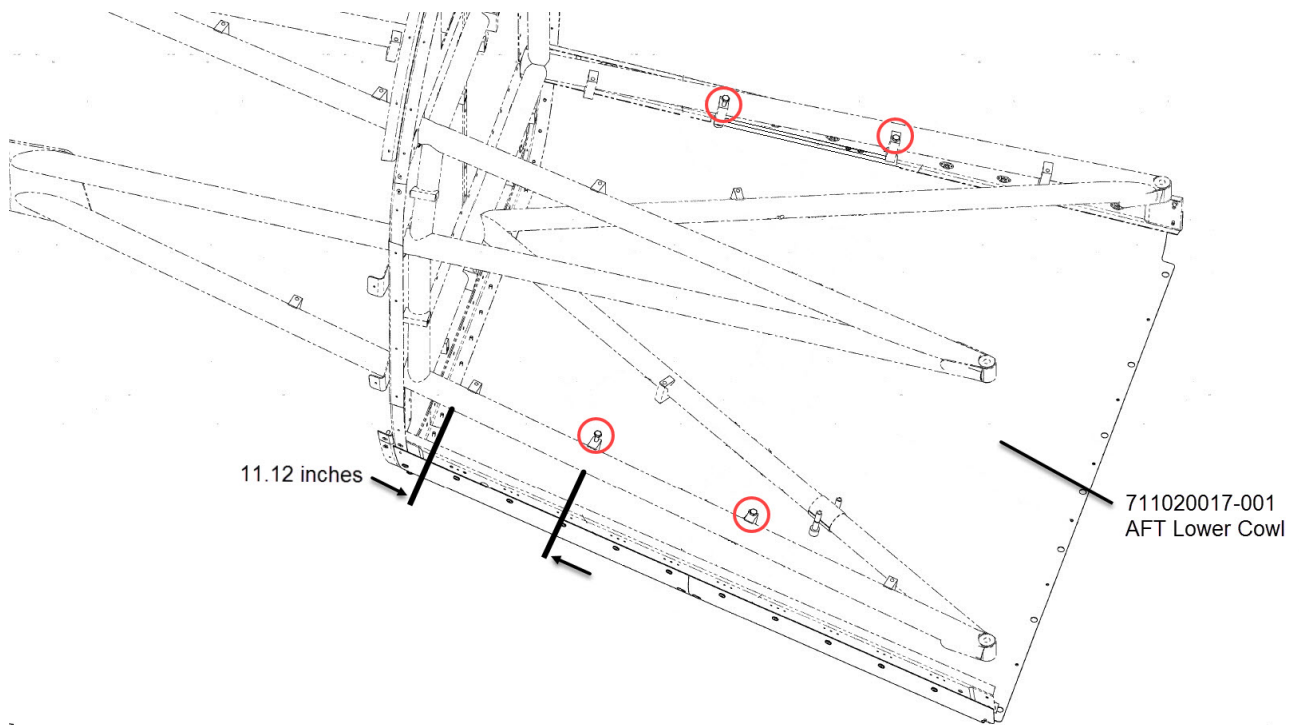

Figure 8-2
- B. Remove and discard (2) AN4-24A and (2) AN4-30A bolts and associated (4) AN960-416 washers and (4) MS21033N4 nuts at engine mount weld lugs that attach to the baggage compartment and battery plate located 11.12 inches from FWD firewall. See Figure 8-2.